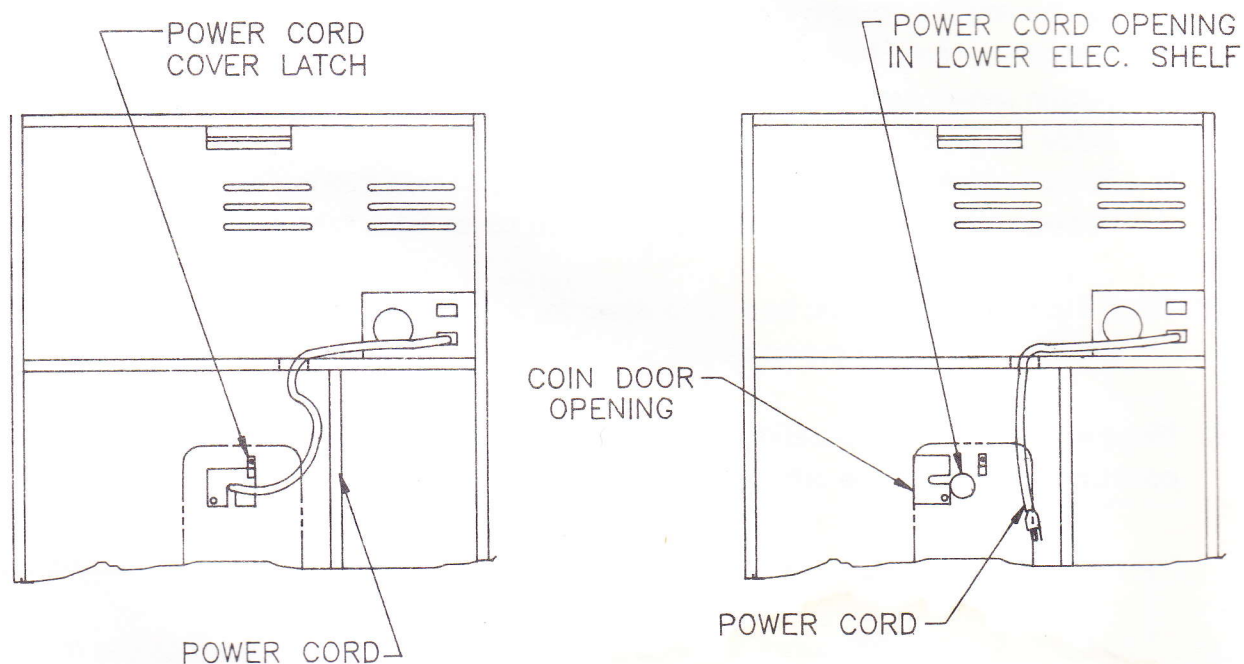

FIG. 2
- B. Turn power cord cover latch counterclockwise until the power cord hole cover itself can be rotated counterclockwise. See FIG. 2.